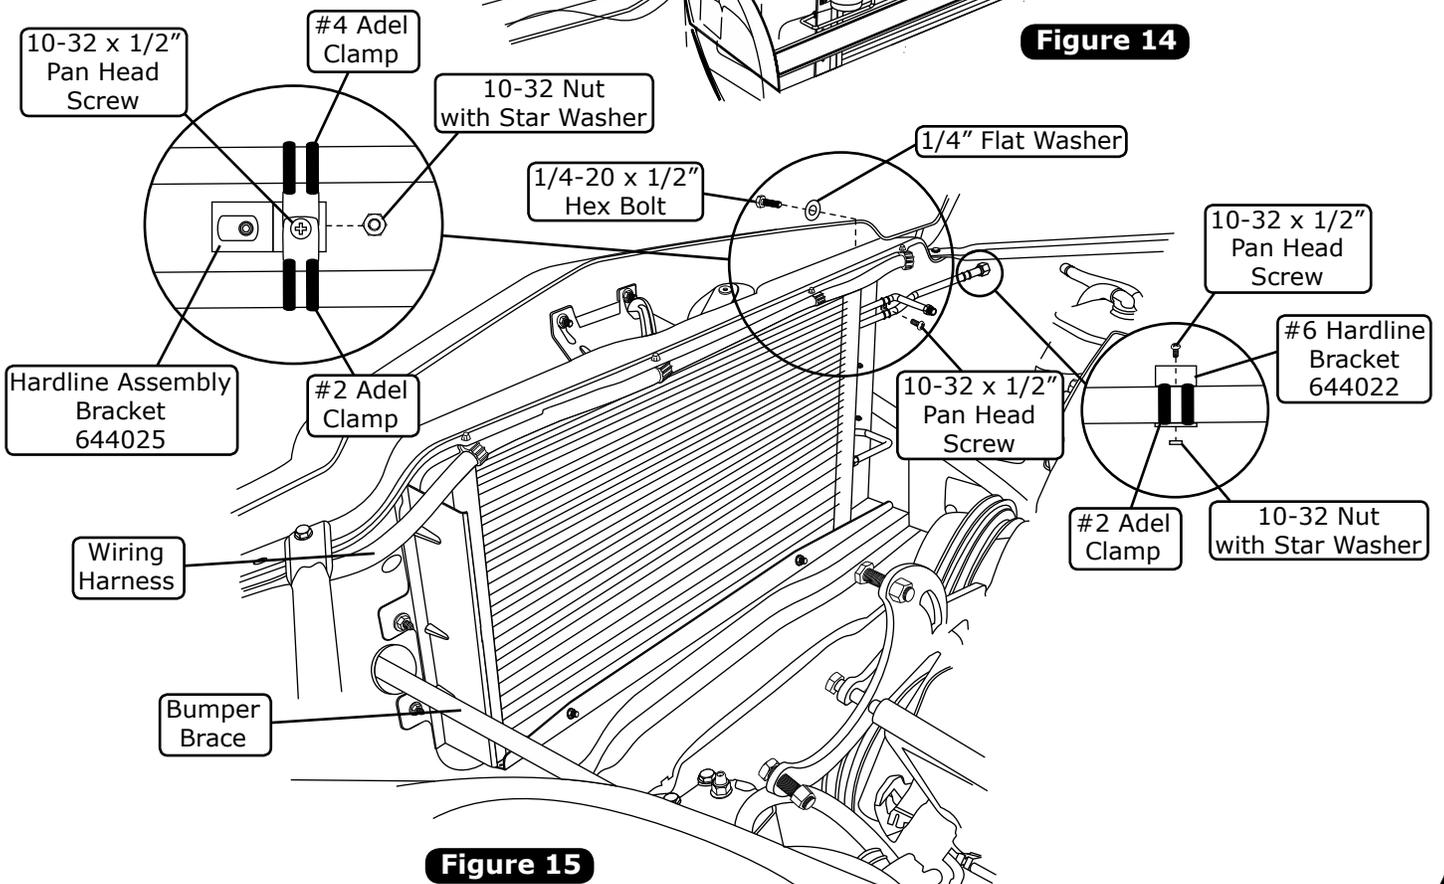

Figure 15
2. Using a 1/4-20 x 1/2" bolt and 1/4" flat washer, attach the hardline assembly bracket to the core support as shown in Figure 15, below. **NOTE: The bolt will be installed through the OEM hole in the core support and into the weld nut on the bracket.**
3. Install a #2 Adel clamp onto the #6 drier/core hardline, and a #4 Adel clamp onto the #8 condenser/core hardline. Attach the clamps to the hardline assembly bracket using a 10-32 x 1/2" pan head screw and a 10-32 nut with star washer (See Figure 15, below).
5. Install a #2 Adel clamp onto the #6 drier/core hardline, and secure it to the #6 hardline bracket using a 10-32 x 1/2" pan head screw and 10-32 nut with star washer (See Figure 15, below).